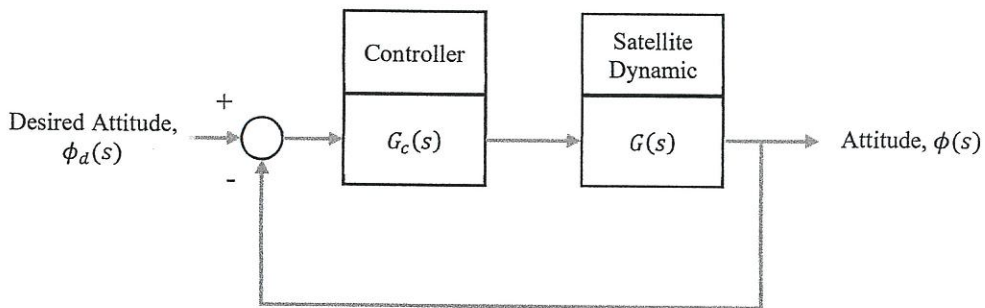

Figure Q5(b) The block diagram for the satellite control system.
- (b) An attitude control system for a satellite vehicle within the earth's atmosphere is shown in **Figure Q5(b)**. The transfer functions of the system are given as follows: